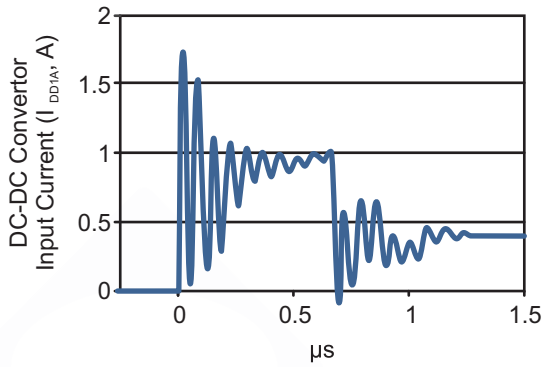

Figure 15. Typical start-up current (max. load; no V_{DD1} bypass capacitor).
- Added start-up current specification (p. 7) and typical graph (Figure 15).